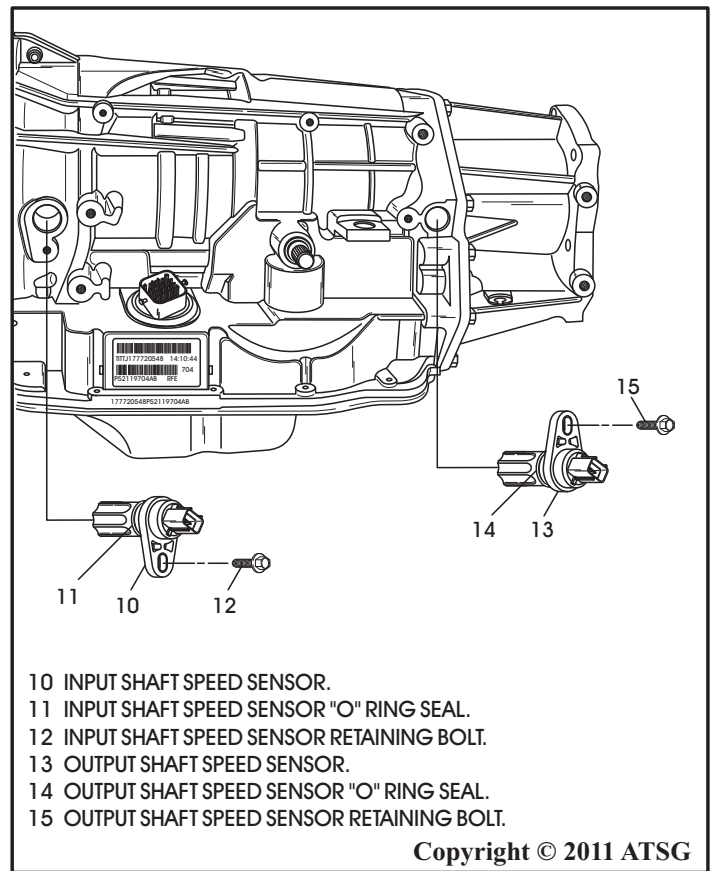

Figure 166
53. Install both speed sensors into transmission case, as shown in Figure 166.